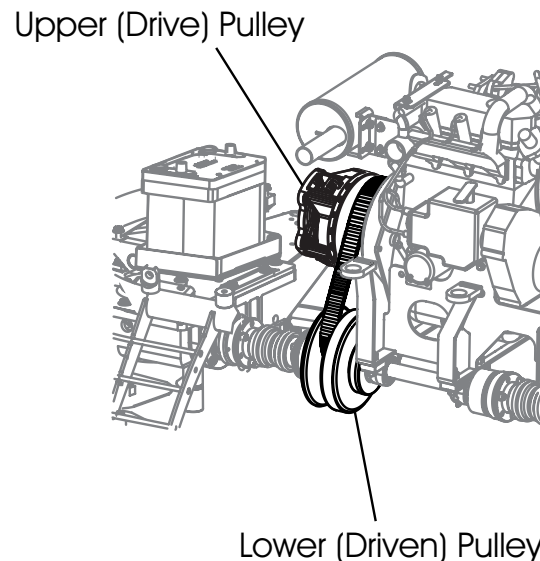

Figure 29. Drive Belt, Belt Holder and Pulleys
1. Remove Left-side End Grate and open Left "Clamshell" (see Figure 4) to gain access to Drive Belt and Pulleys (Figure 29)..